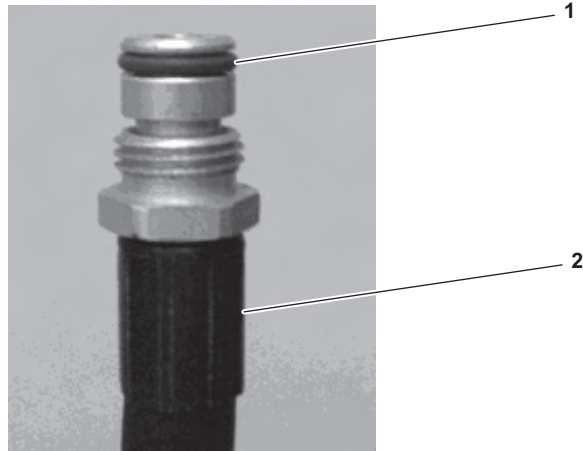

Figure 6-26. Low-Pressure Hose Respirator Ring
- (1) Visually inspect the respirator ring (figure 6-26, item 1) on the low-pressure hose (figure 6-26, item 2) for nicks, cuts, wear and tear, or foreign debris. If necessary, remove and replace IAW paragraph 6.1.5.